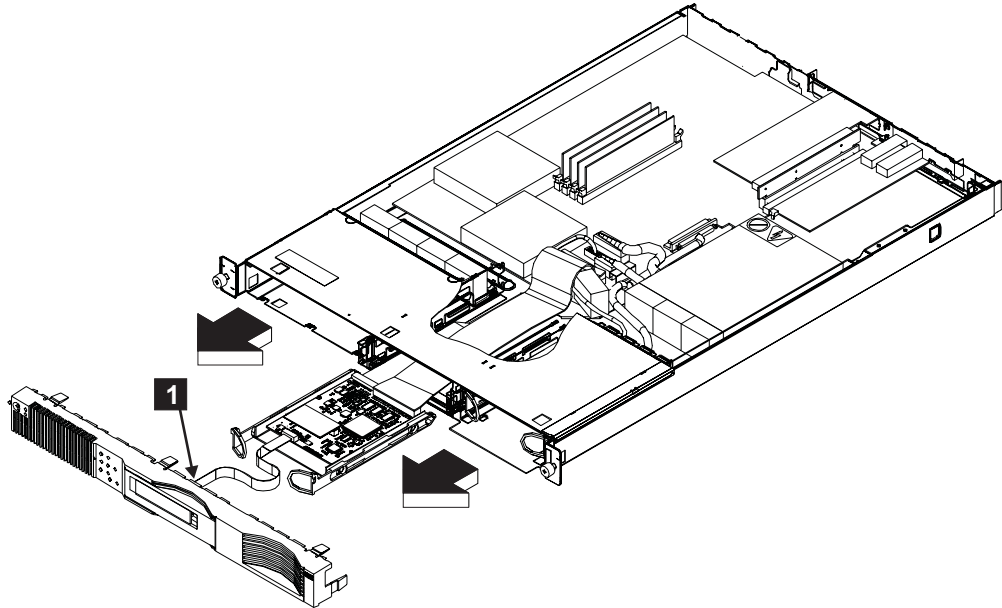

Figure 58. Removing the front panel of the SAN Volume Controller 2145-4F2
6. Disconnect the connector (**1** in Figure 58).